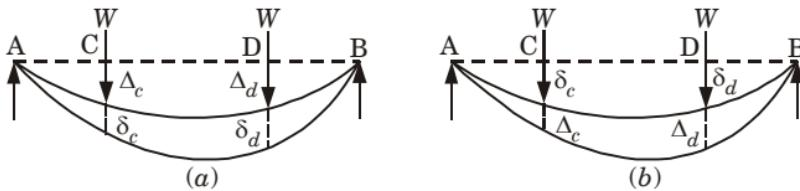

Fig. 37.
- Now change the order of loading as shown in Fig. 37(b). Now consider initially load  $W$  is at  $D$ . Due to this load,